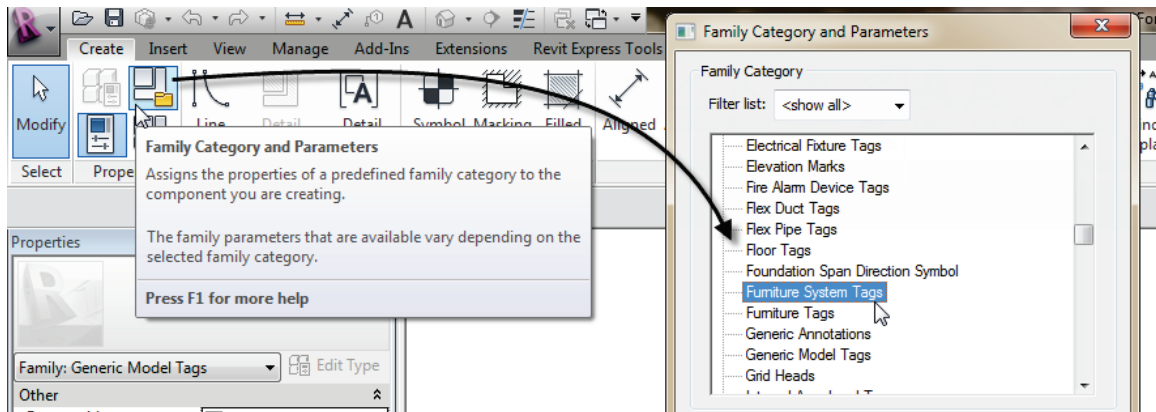

Figure 7—Change the Category of the Tag
4. Choose the appropriate category for your tag. In this example, we'll choose Furniture System and then click OK (see Figure 7).